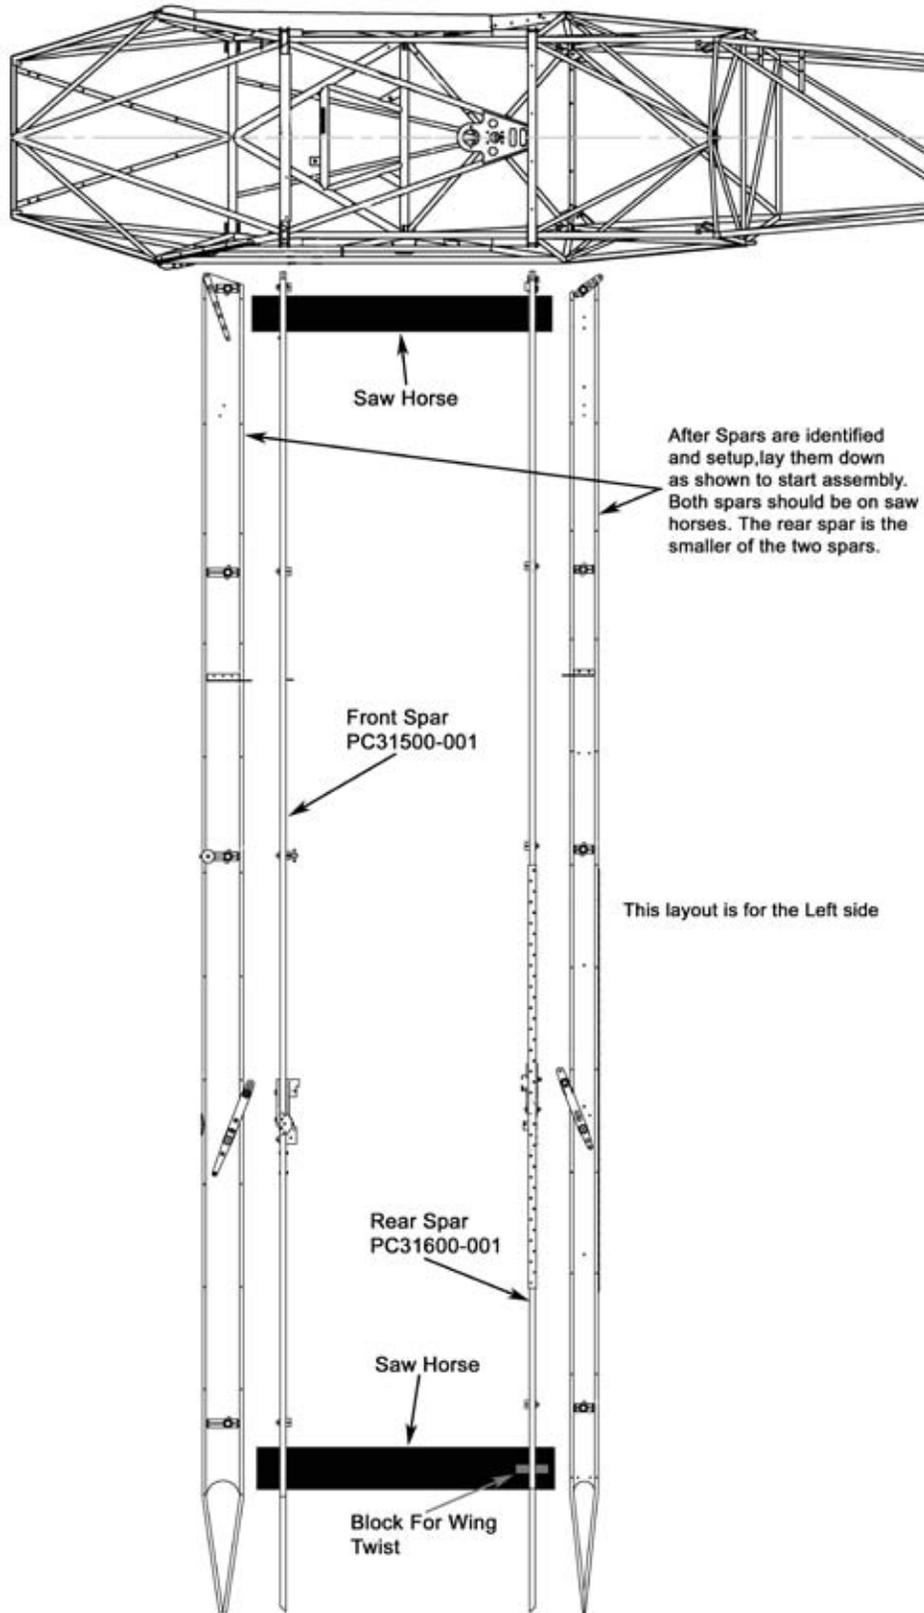

Figure W1
- 2) The picture below shows a typical shop setup. Lay the front and rear spars for the left wing on the sawhorses as shown on Figure W1. Figure W1 does show blocks and fittings that we haven't placed yet. The fittings help illustrate the layout. When the spars are in as-received condition, they have no hardware in place. The fuselage is shown in Figure W1 to provide further sense of scale but there is no need for the fuselage to be in that position at this time. If you have received your **Carbon Cub EX** kit fuselage, move it further away to allow easy access for the wing build.